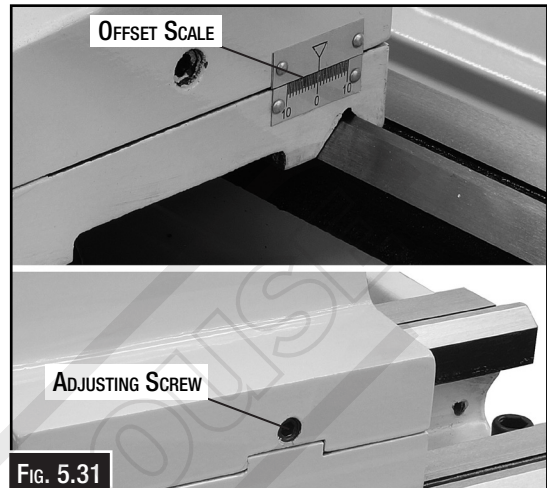

Fig. 5.31
By offsetting the tailstock, the dead center can hold a workpiece off centre from the spindle centerline so tapers and pipe threads can be cut. An offset scale (Fig. 5.31) with increments is located at the rear of the tailstock. However, to achieve exact taper angles, or to adjust the tailstock back into the spindle centerline, angle gauges and a test indicator must be used.
2. Using a hex wrench loosen one of the front or rear adjustment screws shown in Fig. 5.31